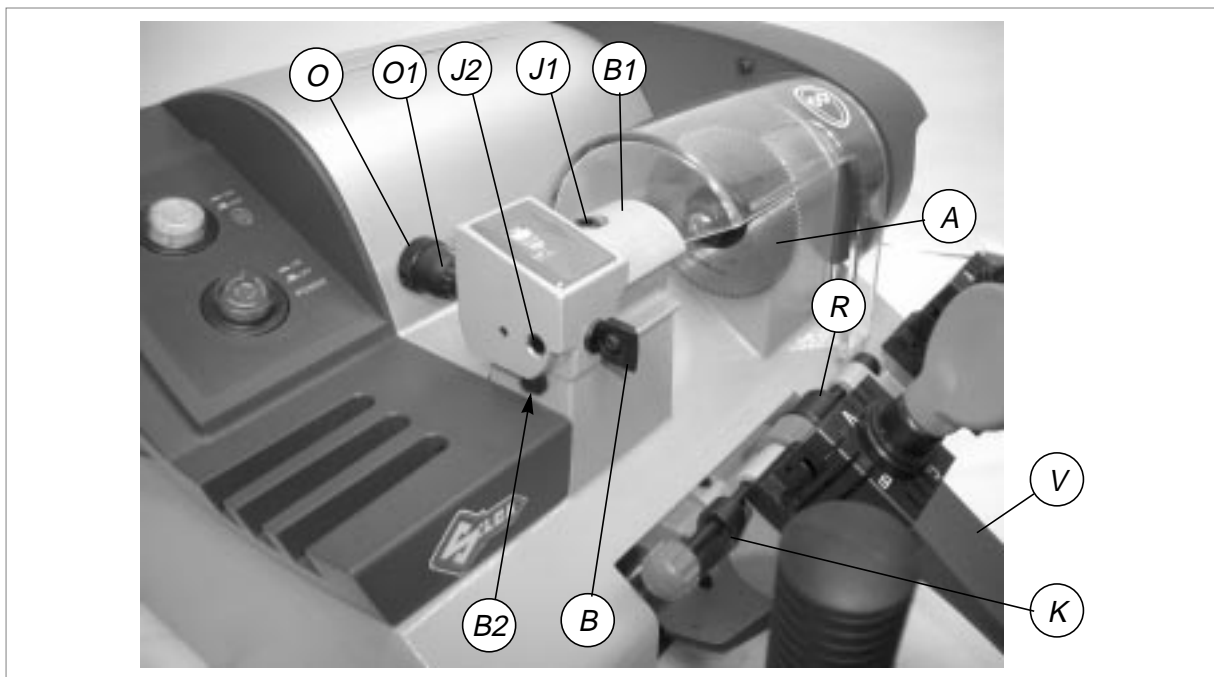

Fig. 14
- 3) Release the carriage by lowering the knob (V) and pressing the push button (Q) right down (fig. 14, page 15).
- a) loosen the screw locking the tracer point (J2) (fig. 14, page 15).
- b) turn the knob (O) clockwise to move the tracer point forwards.
- c) turn the knob (O) anticlockwise to move the tracer point backwards (each mark on the graduated drum equals a variation of 0.002").
- a) with one hand hold still the knurled part of the knob (O).
- 1) Turn off the master switch (C) to operate safely and prevent activation of the cutting tool.
- 2) Place the adjusting key in the clamps (fig.14) with the notch facing the cutting tool and tracer point and proceed as follows:
- a) ensure that the keys adhere to the clamp and that the callipers (K) are in full contact with the stops.
- b) to take the callipers into contact with the keys, rotate the drum (R) towards you (away from you to return to the idle position).
- 3) Release the carriage by lowering the knob (V) and pressing the push button (Q) right down (fig.14).
- 4) Move the adjusting key so that the notch comes into contact with the cutting tool (A) and tracer point (B).
- a) loosen the screw (J1) to move the tracer point (fig.14).
- 8) Lower the carriage by means of the handle (V) (it will engage automatically).